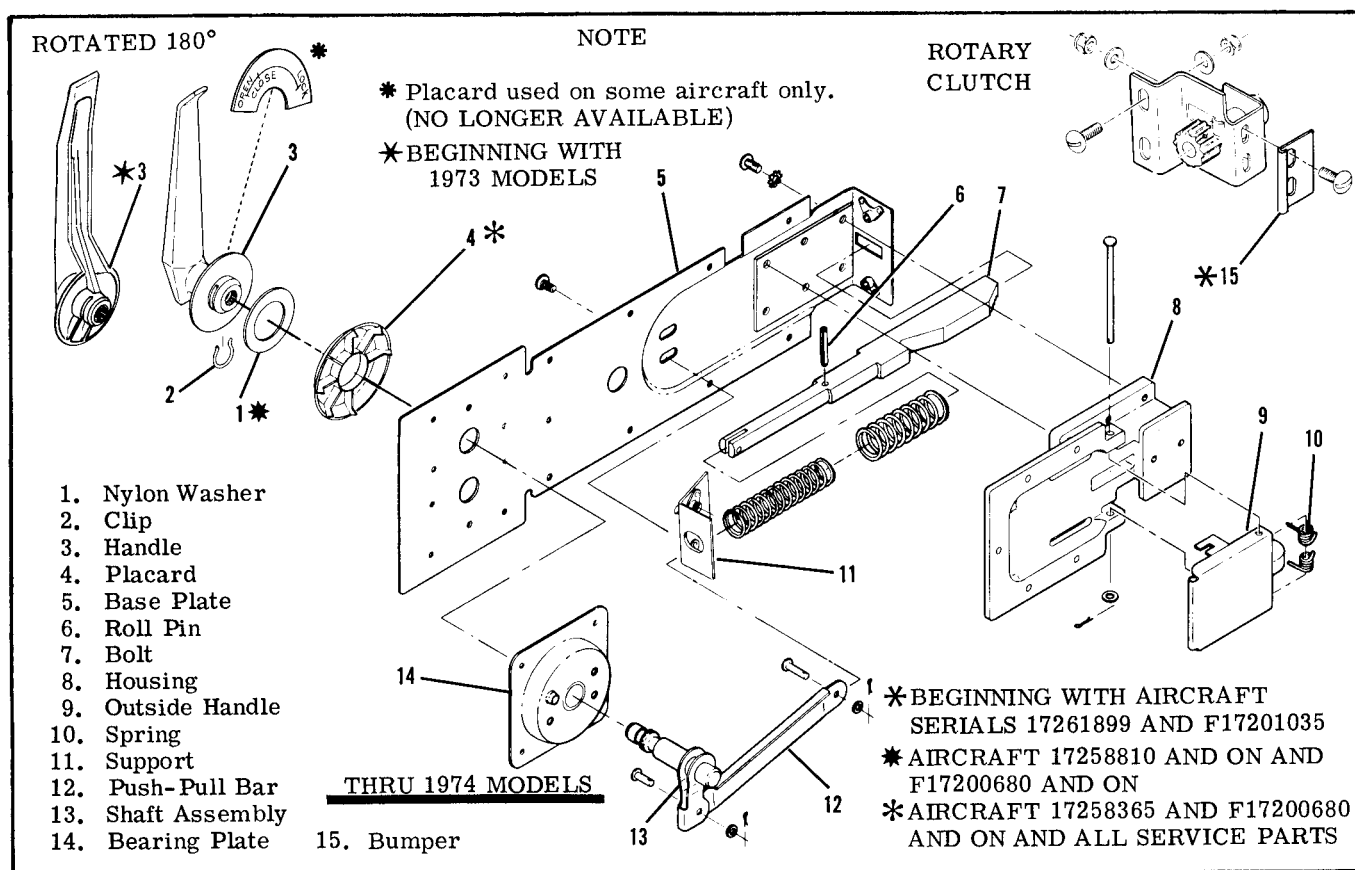

Figure 3-4. Door Latch Installation (Sheet 1 of 2)
3-24. LATCHES. (Refer to figure 3-4.)
3-28. INDEXING INSIDE HANDLE. (Refer to figure 3-4.) When inside door handle is removed, reinstall in relation to position of bolt (7) which is spring-loaded to CLOSE position. The following procedure may be used.
1. Temporarily install handle (3) on shaft assembly (13) approximately vertical.
2. Move handle (3) back and forth until handle centers in spring-loaded position.
3. Without rotating shaft assembly (13), remove handle and install placard (4) with CLOSE index at top and press placard to seat prongs.
4. Install nylon washer (1).
5. Install handle (3) to align with CLOSE index on placard (4) and install clip (2).
6. Ensure bolt (7) clears doorpost and teeth engage clutch gear when handle (3) is in CLOSE position.